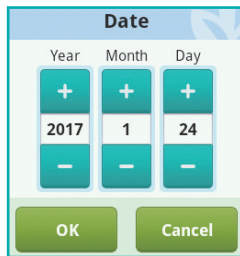

Figure 14
a) Choose the Date setting to open a dialog box (Figure 14) that can be used to input the correct date. Use the "+" and "-" buttons to select the date, choose OK to save and exit or Cancel to exit without saving.